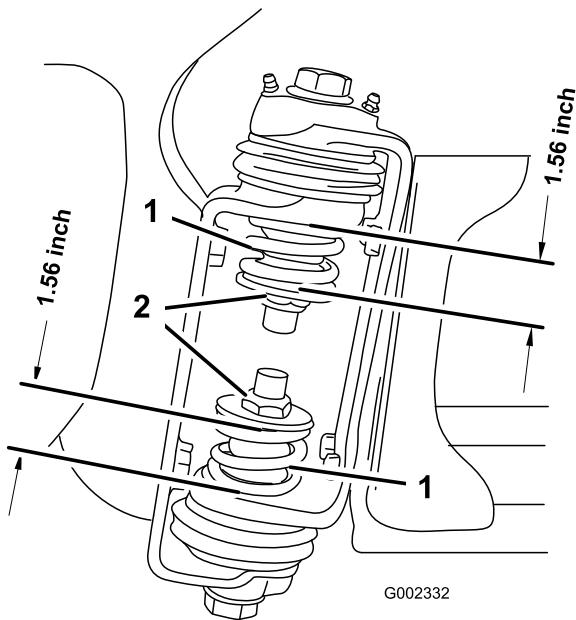

Figure 4
- At the boom hinge, measure the compression of the upper and lower springs while the booms are in their extended position (Figure 4).